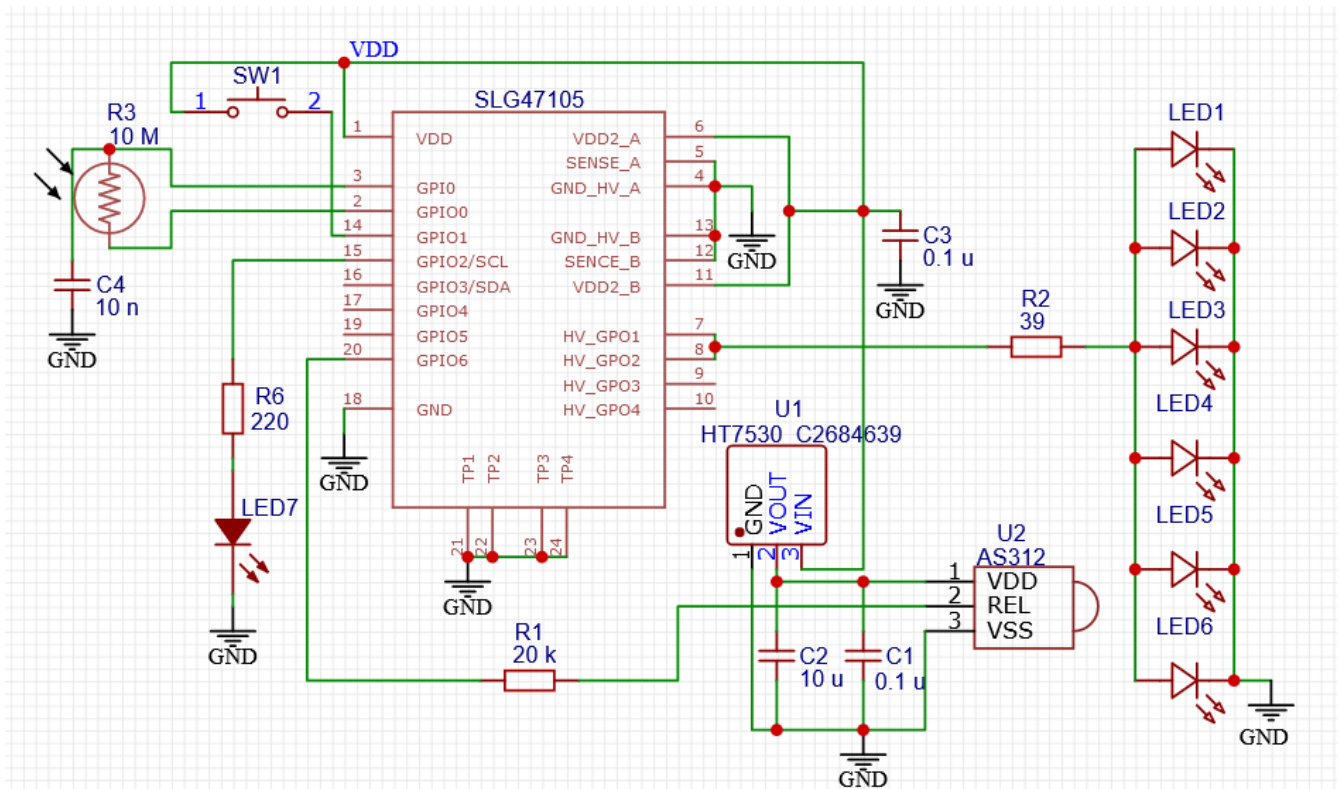

Figure 10 Full Circuit Design
- Figure 10 Full Circuit Design7
The full circuit design can be found in Figure 10.